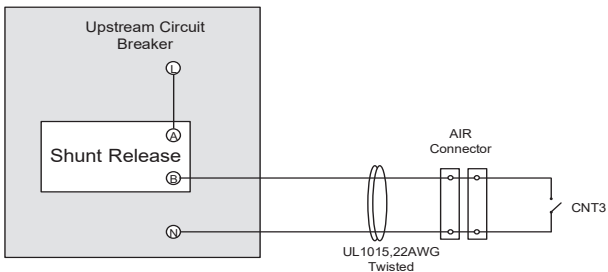

Figure 23. Control Circuit
1) Connect UL1015 22AWG 105°C 600V wires from the sensor board to the upstream circuit breaker. See Figure 23.